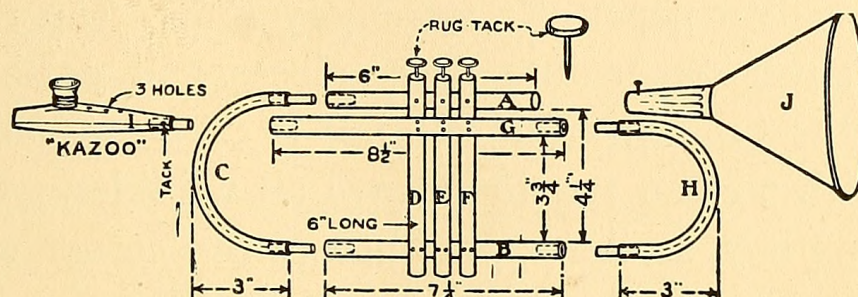

FIG. 533. — Details of Cornet.
**The Cornet** (Fig. 530). Procure a quart-size tin funnel for the bell of the cornet and several feet of round stick  $\frac{1}{2}$  inch in diameter for tubing; for this some old flagstuffs can be used, or cabinet-maker's  $\frac{1}{2}$ -inch dowel sticks can be purchased for a few cents a stick. The curved tubing can be formed of rubber tubing as is shown in the illustration (Fig. 533), or by bending a piece of tree branch
to the proper shape (Fig. 538). The lengths of the straight tubing are marked on the diagram, and the pieces are lettered in the order in which they should be assembled. If rubber tubing is used for the ends, run several pieces of heavy wire through it to give it proper stiffness (see dotted lines *C* and *H*, Fig. 533). Bore holes in the ends of the wooden tubing where indicated, and whittle pegs to fit them and the rubber tubing. Fasten the pegs in place with glue, and fasten the other pieces with brads. Drive rug tacks (Fig. 533) into the ends of the key tubes for keys. A "kazoo" is necessary for a mouthpiece. This little instrument, shown in the illustration, will cost a dime, and can be purchased from any music dealer; if he does not carry it in stock, he can procure it for you in
thick as the broom-handle tubing (Fig. 537). Let the tubing dry thoroughly, then pull out the stick and prepare another tube similarly. The curved end *O* (Fig. 535) may be made out of a tree branch (Fig. 538) or out of rubber tubing (Fig. 533). Fasten *P* between *M* and *N* with brads (Fig. 535). Screw a screw-eye 1 inch in diameter (inside) into each end of *Q* (Fig. 539), and slip them over the paper tubing (Fig. 535). When all the pieces